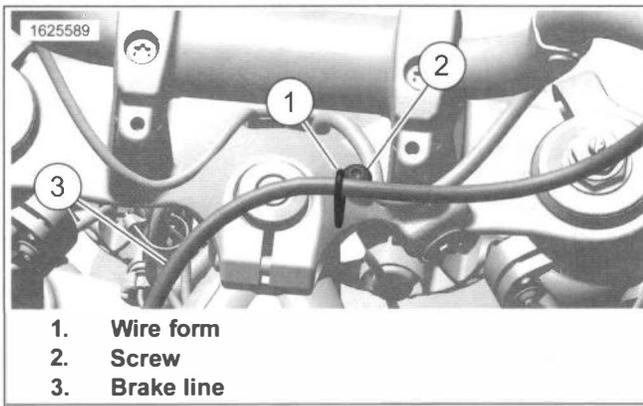
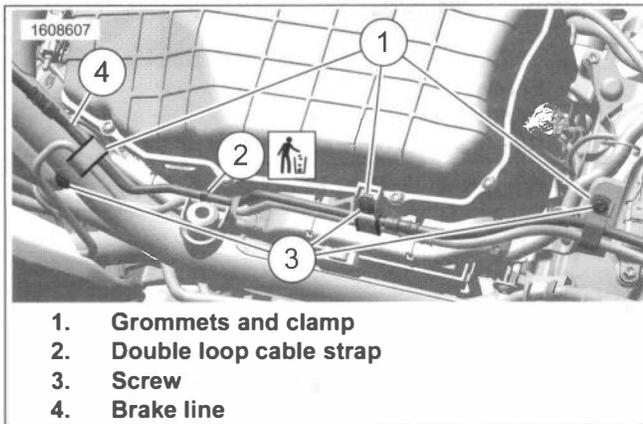
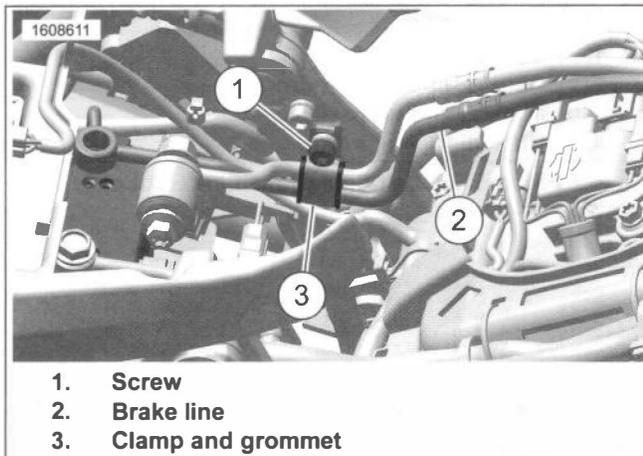

Figure 3-34. Brake Line Routing (Forward)
Figure 3-35. Left Side Brake Line From Front Master Cylinder
Figure 3-36. Rear Brake Line Clamp
1. See Figure 3-34. Remove screw (2) and brake line (3) from wire form (1).
2. See Figure 3-35. Remove brake line left side clamps.
- a. Remove screws (3).
- b. Remove clamps and grommets (1).
3. Remove double loop cable strap (2), discard.
4. See Figure 3-36. Remove rear clamp.
- a. Remove screw (1).
- b. Remove clamp and grommet (3).
- c. Remove brake line (2).
2. See Figure 3-36. Install rear clamp.
- a. Install grommet and clamp (3).
- b. Install screw (2).
3. See Figure 3-35. Install **new** line double loop cable strap (2).
- a. Install grommet and clamps (1).
- b. Install screws (3).
5. See Figure 3-34. Install brake line (3) in wire form (1). Install screw (2). Tighten.